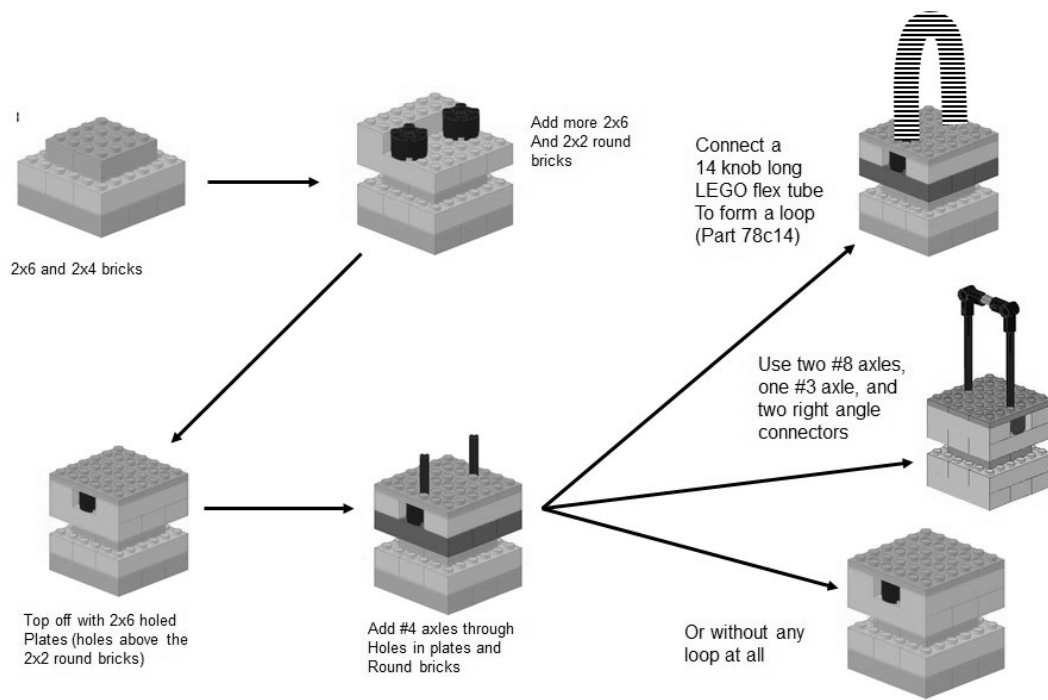

Figure 11 Delivery Mission Object
- 6) Delivery Object (See Figure 11)